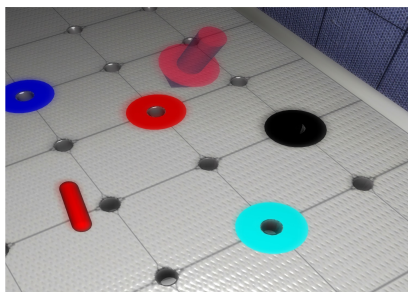

Figure 4.1 Virtual tips. Pointer
- in (Figure 4.1) the pointer directs to the ring, which is supposed to be put on the stick.